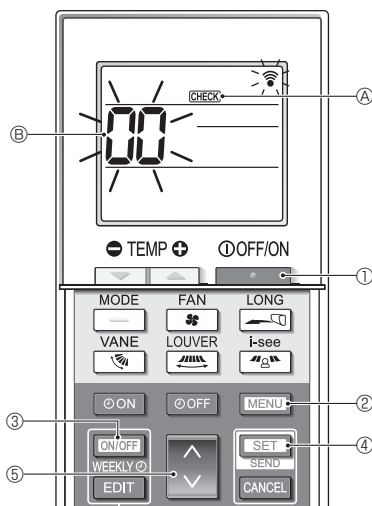

Fig. 7-6
■ Self-check (Fig. 7-6)
- Press the **ON/OFF** button ① to stop the air conditioner.
- If the weekly timer is enabled (**WEEKLY** is on), press the **ON/OFF WEEKLY** button ③ to disable it (**WEEKLY** is off).
- Press the **MENU** button ② for 5 seconds.
- CHECK** ④ comes on and the unit enters the self-check mode.
- Press the **WEEKLY** button ⑤ to select the refrigerant address (M-NET address) ⑥ of the indoor unit for which you want to perform the self-check.
- Press the **SET** button ④.
- Press the **ON/OFF** button ①.
- CHECK** ④ and the refrigerant address (M-NET address) ⑥ go off and the self-check is completed.